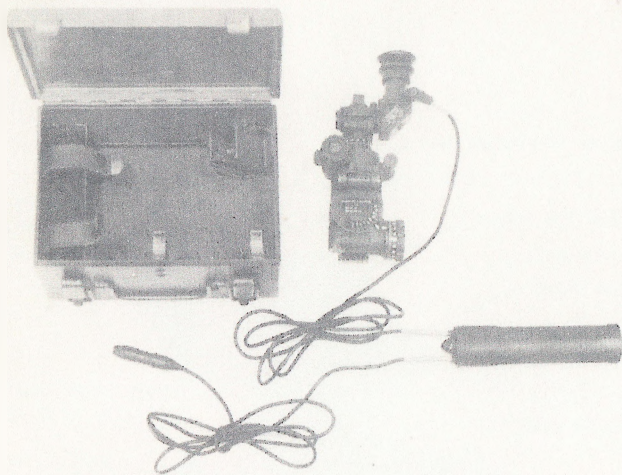

Fig. 35. Sight, instrument light, and carrying case displayed.
(5) A retainer screwed onto rim of the bracket drum carries the elevation scale on its face. One turn of micrometer knob moves scale two divisions, since scale is graduated in hundreds of mils.
(6) A level assembly is mounted on left side of quadrant for longitudinal leveling, and another level is mounted on the quadrant rear for cross-leveling.
d. Carrying case T14. (1) Elevation quadrant, telescope adapter, and elbow telescope are held as a unit in the T14 carrying case (fig. 35). Instrument light T16 (e, below) is also held inside this carrying case, as are four dry cell batteries and sufficient electrical cord to reach from the carrying case to telescope when equipment is attached on mortar.
(2) When instrument light is being used, two dry cells are inserted in the battery case which is kept in the carrying case. Carrying case is placed on the ground by the mortar, and electrical leads carry power for illumination of the telescope reticle from carrying case to telescope. Lights are turned on by turning knob on head of battery case; the intensity of the lights is adjusted by further rotation of this knob.